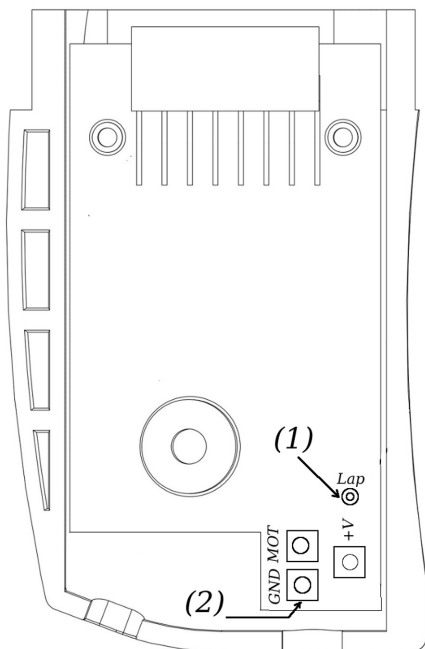
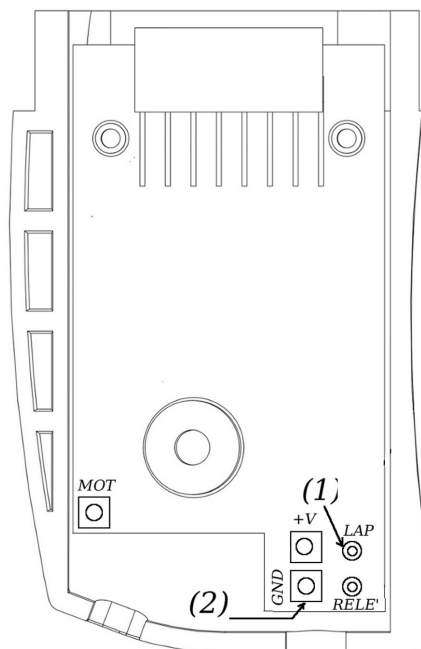

Figure 9: negative/positive analog cartridge
Figure 10: high-current cartridge
- insert the USB white cable's male plug of the *Universal Live Timing Box* (10) in the USB female plug of the SCP-01 controller;
- insert the USB male plug of the “*connection cable*” (12) welded to the SCP-01 controller's cartridge (for instructions, see the following point) into the USB female plug of the “*Track to telemetry cable*” coming from the *Track Interface*. In case one wants to avoid the use of the “*connection cable*” (12) of the *Universal Live Timing Box*, the user can follow what described in point (1);
- welding “*connection cable*” (12) to SCP-1 controller's cartridge: with reference to figure 9 and 10, the black wire must be welded in point 2, the red one in point 1. Figure 9 can be referred to in case of use of positive or negative analogue cartridge, figure 10 in case of high-current cartridge. IMPORTANT: The welding must be done keeping the cartridge not connected to the power supply; play the welding safe acting only on the indicated circuit points;